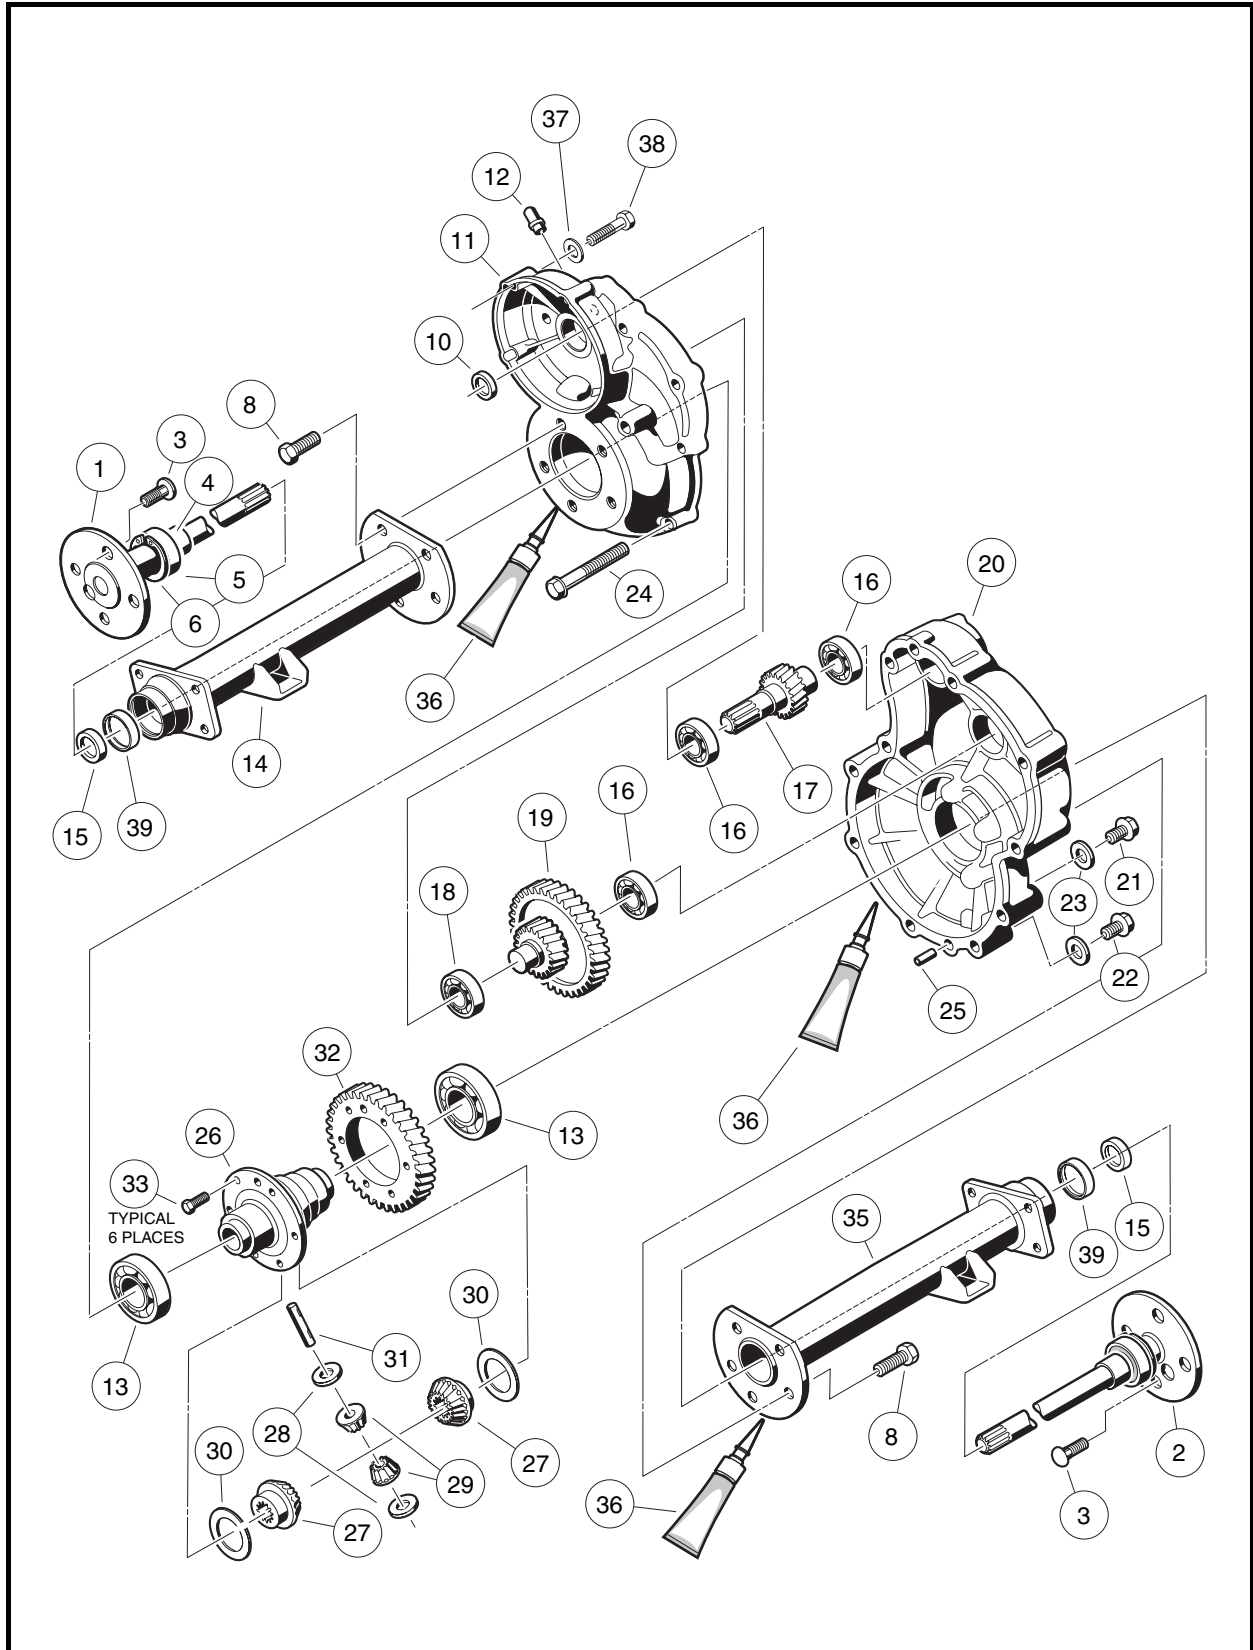
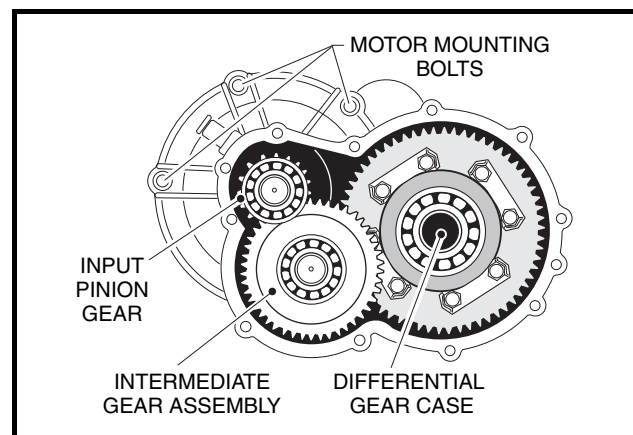
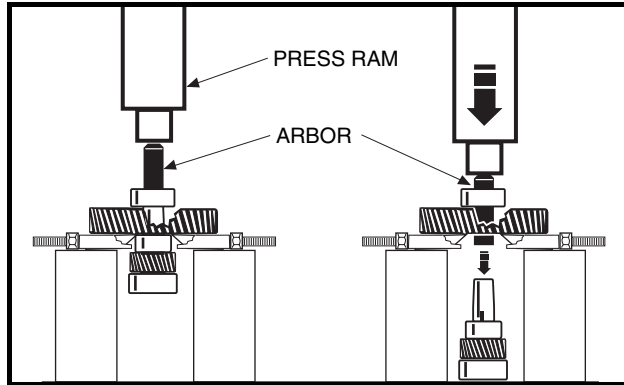
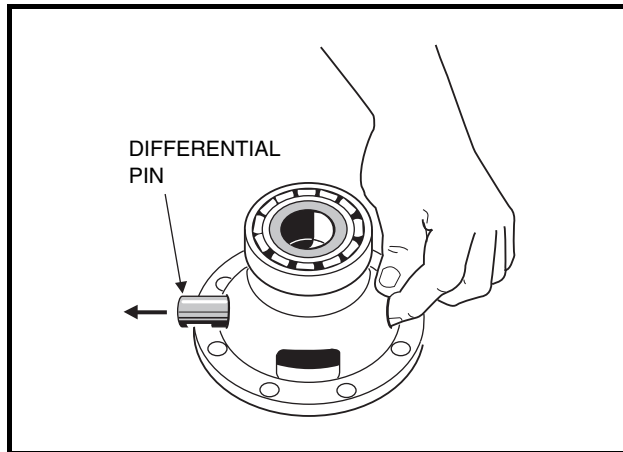

Figure 28-5 Axles And Tubes
Figure 28-11 Motor And Gear Assembly
Figure 28-13 Intermediate Gear Assembly
Figure 28-15 Differential Pin
There are two plugs located on the lower half of the transaxle housing. The upper plug (21) (as viewed when the vehicle is on a level surface) is used as a lubricant level indicator (**Figure 28-5, Page 28-3**). When the vehicle is parked on a level surface, the lubricant level should be even with the bottom of the hole. The lower plug (22) is for draining the lubricant. When draining the lubricant, the upper plug should be removed so the lubricant will drain faster. Be sure the drain plug is installed before filling. **See following NOTE.**
6. If necessary, remove the axle oil seal (15) and adapter ring (39) **(Figure 28-5, Page 28-3).**
8. Inspect bearing (5) **(Figure 28-5, Page 28-3).** If the bearing in a Type G transaxle is worn or damaged, the entire axle shaft assembly (1 or 2) must be replaced.
- 1.3. Clean adapter ring seat(s) in the axle tube (14 or 35) (**Figure 28-5, Page 28-3**).
NOTE: *If the retaining ring (6), axle bearing (5), or sleeve (4) must be replaced, the entire axle shaft assembly (1 or 2) must be replaced (**Figure 28-5, Page 28-3**).*
- 2.1. Insert the shaft, splined end first, through the seal and into the axle tube. Be careful not to damage the seal on the inside of the axle tube hub. Advance the shaft through to the bearing on the shaft, then rotate it to align the shaft splines with the splined bore of the differential side gear (27) (**Figure 28-5, Page 28-3**). Continue advancing the shaft until the bearing on the axle is firmly seated within the axle tube hub seat.
- 2.2. Use a pair of snap ring pliers to install the retaining ring (6) inside axle tube hub so that it seats against the axle bearing assembly and into the machined slot in the inside wall of the axle tube hub (**Figure 28-5, Page 28-3**). **See preceding NOTE.**
Do not remove the axle bearing (5) from a Type G transaxle. If bearing is worn or damaged, the entire axle assembly (1 or 2) must be replaced (**Figure 28-5, Page 28-3**).
9. Remove the three motor mounting bolts (**Figure 28-11, Page 28-6**), and the motor positioning bolt (**Figure 28-11, Page 28-6**), mounting the motor to the transaxle. **See following CAUTION.**
1. To detach axle tubes (14 and 35) from the transaxle housing, remove the bolts (8) (**Figure 28-5, Page 28-3**).
2. Remove 11 bolts (24) that hold housing together.
3. Pull the halves of the housing (11 and 20) apart. If necessary, tap lightly on the spline of the input pinion (17). **See following CAUTION.**
4. Remove input pinion gear (17) by pulling gear out while rocking intermediate gear assembly (19). Lift intermediate gear assembly and differential gear case unit out simultaneously (**Figure 28-5, Page 28-3**). **See following CAUTION.**
5. Use a bearing puller or arbor press to remove bearings (16) from the input pinion gear. If the oil seal (10) is damaged, replace it (**Figure 28-5, Page 28-3**). **See following CAUTION.**
6. To disassemble the intermediate gear assembly, press off together the bearing (16) and the gear (19) (**Figure 28-5, Page 28-3**). **See also Figure 28-13, Page 28-8.**
7. Press the bearing (18) off the intermediate gear assembly (**Figure 28-5, Page 28-3**). **See also Figure 28-13, Page 28-8.**
- 8.1. Remove the hex bolts (33) and the ring gear (32) from the differential case (26) (**Figure 28-5, Page 28-3**).
- 8.4. Remove the differential pin (31) by pushing pin through differential gear case from one side (**Figure 28-5, Page 28-3**). **See also Figure 28-15, Page 28-9.**
- 8.7. Inspect the bearings (13) of the differential case (26) and replace them if they are damaged (**Figure 28-5, Page 28-3**). To remove them, press them off. **See following CAUTION.**
1. If bearings (13) were removed during disassembly, install new bearings using an arbor press (**Figure 28-5, Page 28-3**).
- 2.1. Install the pin (31) (**Figure 28-5, Page 28-3**). Apply a small amount of oil to all thrust plates and to both ends of the pin.
- 2.2. Install the hex bolts (33) and output gear (32). Tighten bolts to 58 ft-lb (78.6 N·m).
3. Press a new bearing (18) onto the intermediate gear assembly (**Figure 28-5, Page 28-3**).
4. Press new bearing (16) onto input pinion gear (17).
5. Apply grease to the lip of the new oil seal (10) and install the seal using a transaxle pinion seal tool (CCI P/N 1014161). The lip of the oil seal should face the inside of the transaxle housing. Make sure the seal is firmly seated.
6. Install the differential assembly, the intermediate gear assembly, and the input pinion gear simultaneously. Be sure all bearings are seated properly in the housing. Rotate the input shaft to check for smooth gear operation (**Figure 28-11, Page 28-6**).